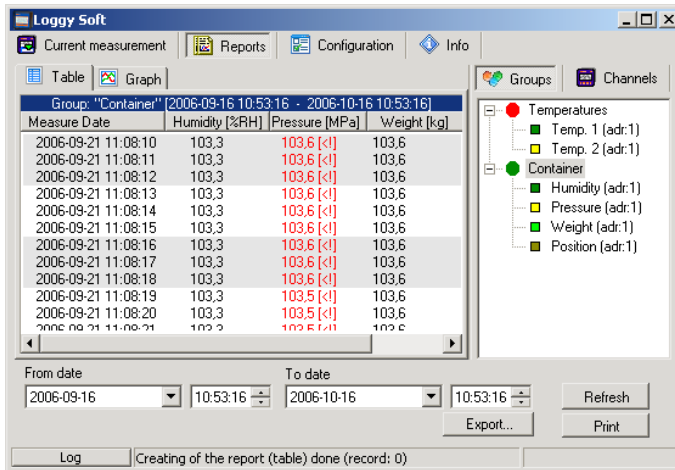

Fig. 3.3. **Reports** - menu
The **Table** tab (Fig. 3.3) is used for printing information concerning recorded measurements (e.g. temperature, humidity) in the form of a table for one of the groups or a particular measurement channel selected by the user (for more information on groups see 3.3.2 section, at page 97). This tab also enables the export of data to text format files. The exported file is formatted in a way allowing the transfer of data to a calculation sheet.
- click appropriate tab **Groups** or **Channels** (Fig. 3.3),